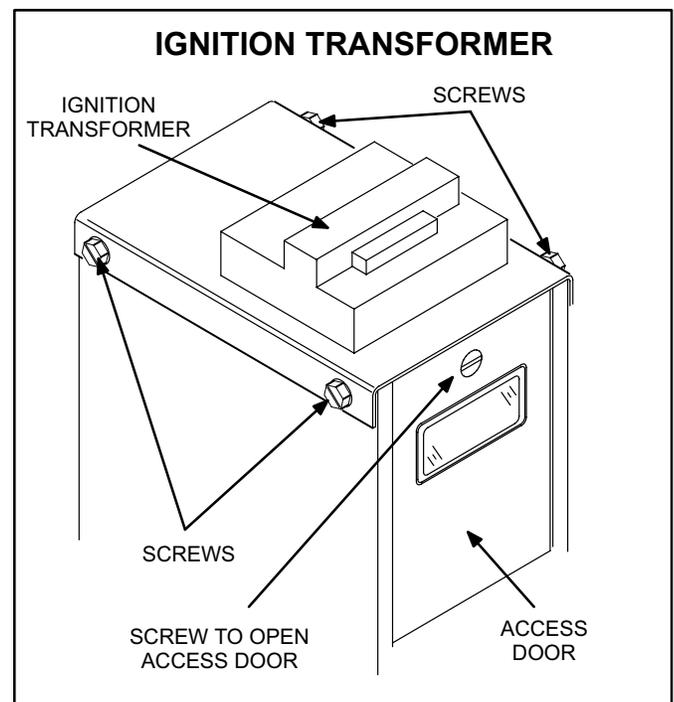

FIGURE 20
- 1- Remove all four screws located on the side of the ignition transformer. See figure 20.
- 1- Loosen the screw to the back access door until door opens. See figures 20 and 21.